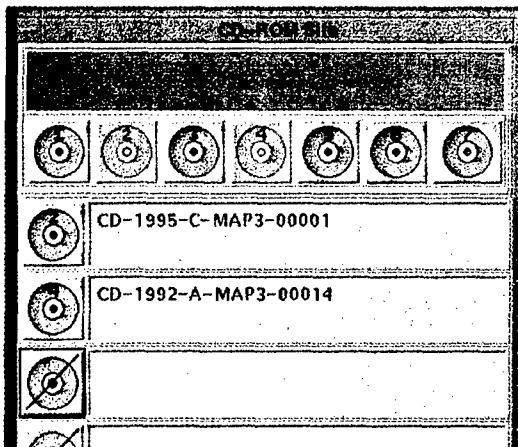

Fig. 83 — CD-ROM Site Window: deleted one CD reader from the list (#3)
- 5) If any of the listed CDs is not required, click (with middle mouse button) and drag that CD's number from the list to the Trash Can at the bottom of the window. Any CDs that were listed below the deleted CD will be bumped up to fill in the list (Fig. 83).